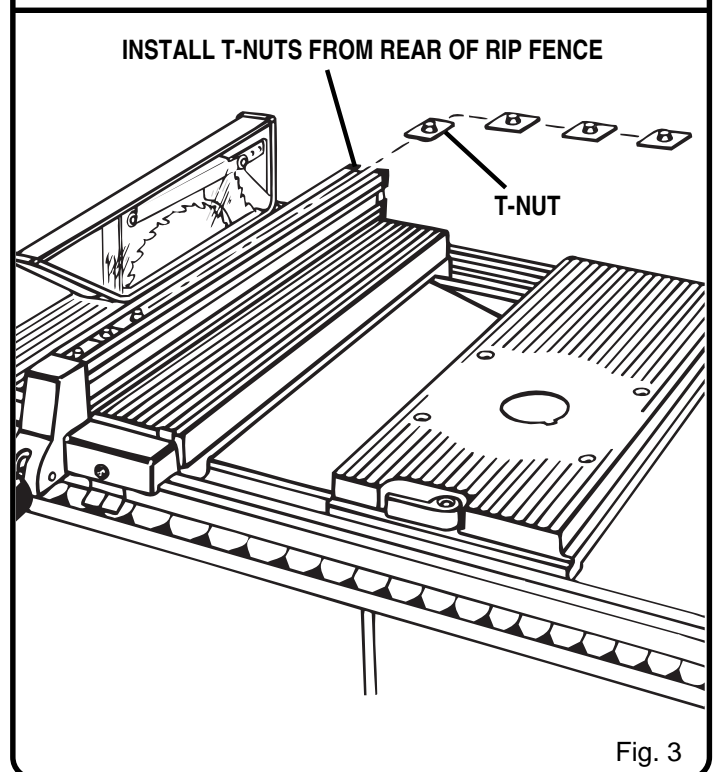

Fig. 3
See Figure 3.
1. For ease of assembly, unlock rip fence and slide away from saw blade. See Figure 3.
3. Slide four remaining 5/16 in. T-nuts in top channel of rip fence as shown in figure 3.